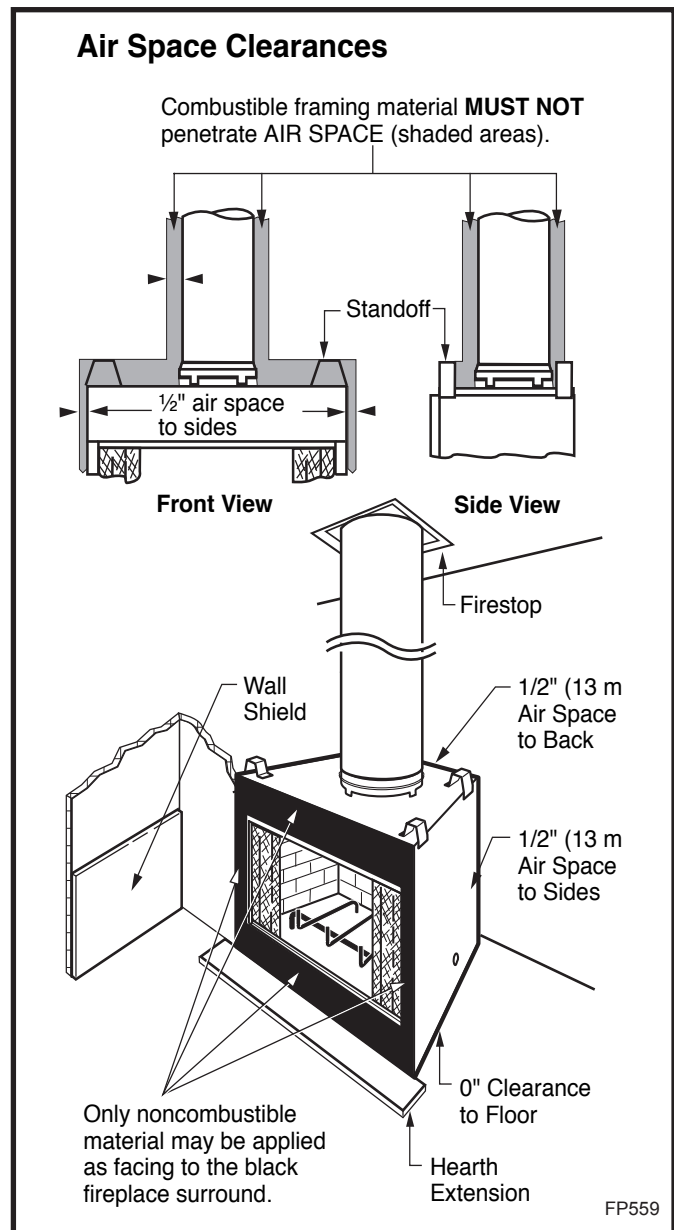
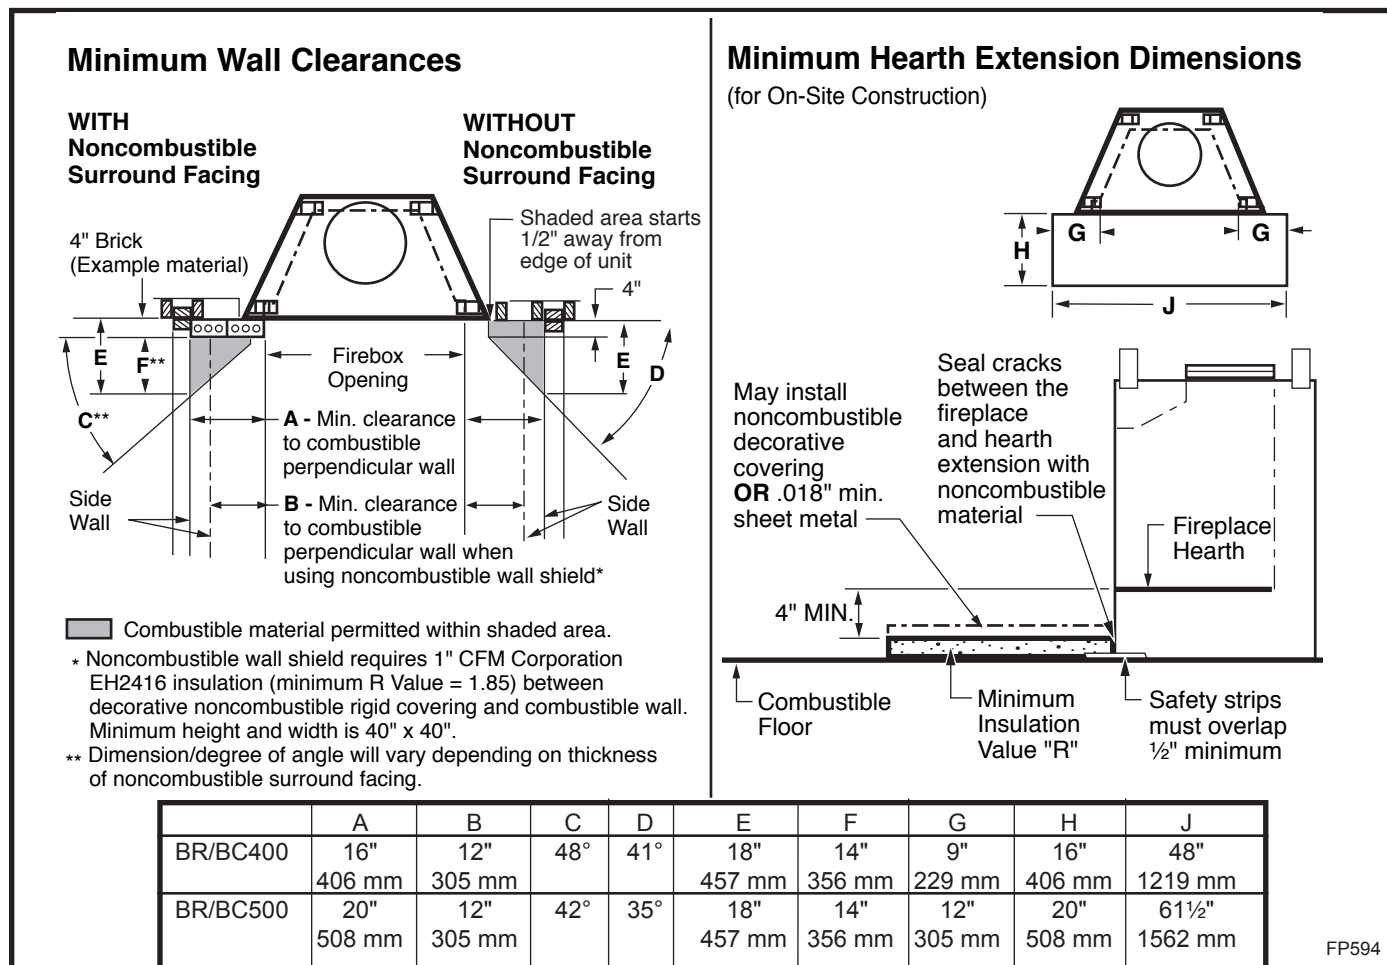

Fig. 20 Minimum clearances to combustibles.
Fig. 23 Combustible side wall protection and hearth extension dimensions.
CAUTION: All joints between the finished wall and the fireplace surround (top/sides) must be sealed with noncombustible material to prevent cold air leakage into the room. Only noncombustible material may be applied to the facing of the fireplace surround. (Black painted area) (Fig. 20)
Often a decorative surround or vertical portion of the mantel is desired. If this is constructed of any combustible material it must be within the safe zone indicated in Figure 23.
Adjacent combustible side walls that are within minimum dimensions shown in Figure 23 of the fireplace opening must be protected with MHSC Wall Shield Model SP40 or a specifically built wall shield described in Figure 20.
The special wall shield design described in Figure 20 is an alternate method of adding protection to side walls and can be used in place of the SP40 with the same wall clearances specified for the SP40. Rt must = 1.85 minimum.
A hearth extension is required to protect a combustible floor in front of the fireplace. Refer to Figure 23 for minimum dimensions and mounting detail.
The hearth extension described in Figure 23 must be a durable noncombustible material with a minimum (total) Rt value of 1.09; see Figure 24 for examples. The overall height (above a combustible floor), depth and width must be as indicated, with the extension centered to the fireplace opening.
The top of insulation must be covered with a noncombustible decorative covering **or** a piece of .018" minimum sheet metal, to protect hearth extension material. (Fig. 23)
Secure the hearth extension to the floor to prevent shifting, using trim molding or other similar means at three (3) outer edges. Seal crack between the fireplace hearth and hearth extension with a noncombustible material. (Figs. 23 and 25)
WARNING: HEARTH EXTENSION MUST BE INSTALLED IN ACCORDANCE WITH FIGURE 23 AND MUST NOT COVER THE BOTTOM FRONT OPENING OF THE CIRCULATING MODEL.